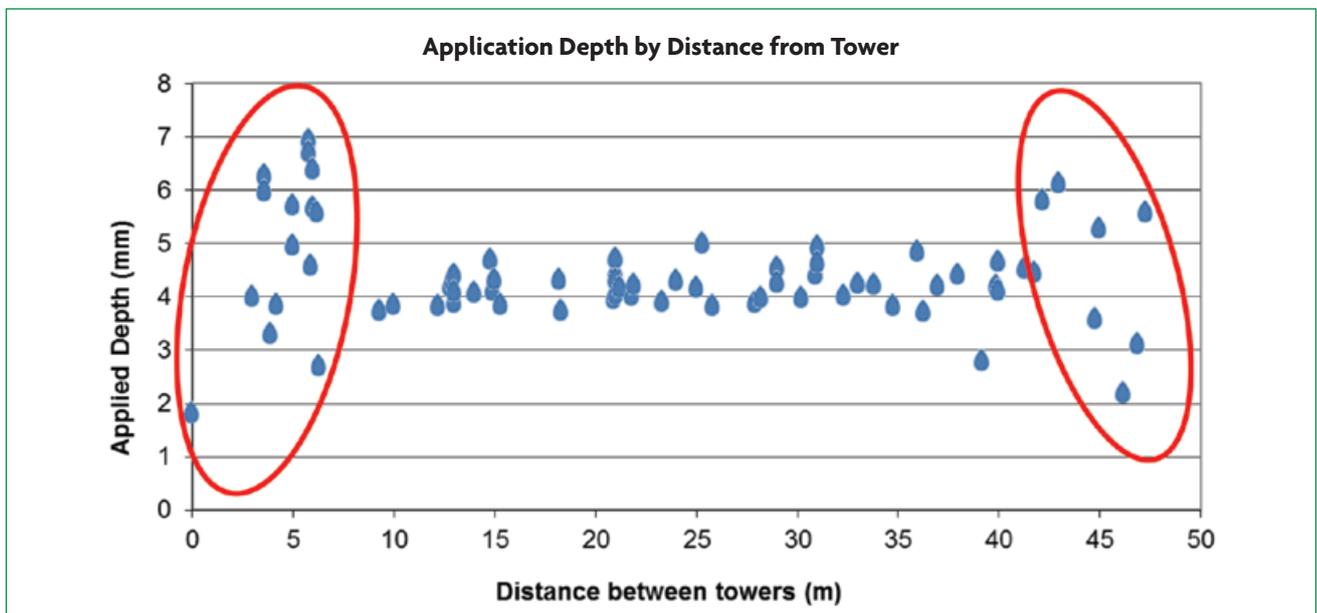

Figure 1. Application depth with all spans overlaid – catch can measurements relative to distance from towers
Figure 1. The recorded Irrigation Applied Depths along Centre Pivot starting from the centre (0) moving outwards. The elevation of each tower is also shown with the triangles. Red line denotes target depth
The major reason for poor performance is sprinkler choice. The data collected from catch cans indicate an issue at the towers (Figure 1) which is where fixed half-circle sprays are fitted. When data from all spans are overlaid and graphed the effect of this is clearly seen (Figure 2).